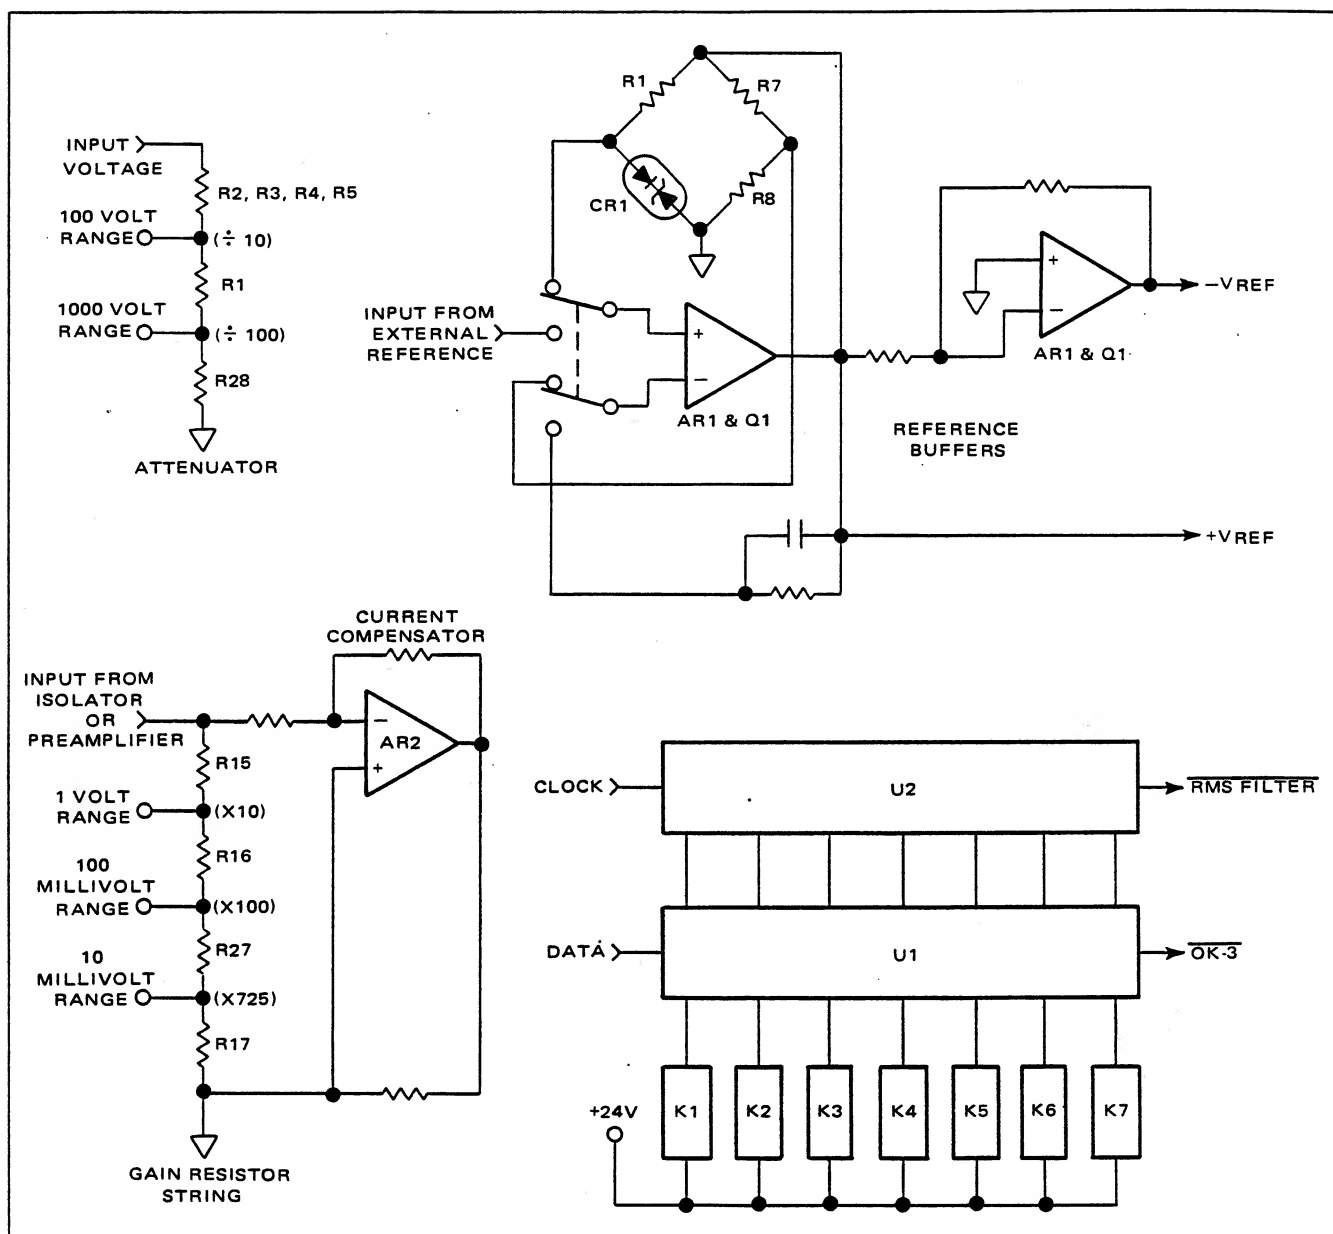

Figure 5.15 - Attenuator/Reference Board Block Diagram
5.3.5.4.1 The Attenuator/Reference Board (Figure 5.15) provides a signal attenuation network, a gain resistor network and reference voltage circuitry. The Attenuator/Reference Board also contains on-board relays and relay control logic.